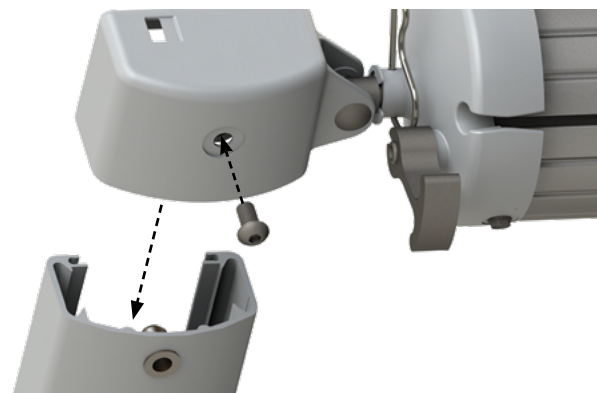

Fig.3
3. Repeat step 2 for the left support arm assembly (Fig.3).